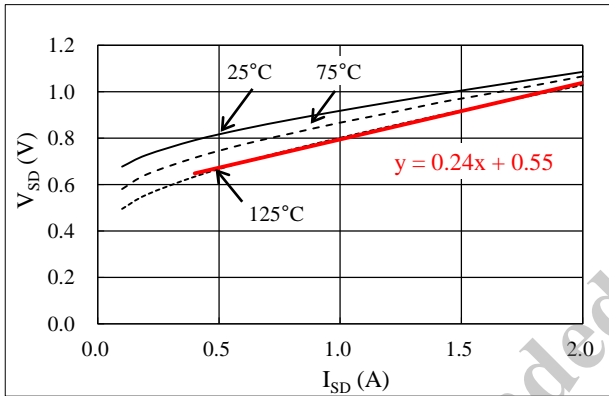

Figure 14-3. Linear Approximate Equation of V_{SD} vs. I_{SD} Curve
- V_{DC} is the main power supply voltage (V), i.e., the VBB pin input voltage, and
Steady-state loss in the body diode of a power MOSFET can be computed by using the V_{SD} vs. I_{SD} curves, listed in Section 15.3.1. As expressed by the curves in Figure 14-3, linear approximations at a range the I_{SD} is actually used are obtained by: $V_{SD} = \alpha \times I_{SD} + \beta$. The values gained by the above calculation are then applied as parameters in Equation (9), below. Hence, the equation to obtain the body diode steady-state loss, P_{SD} , is: